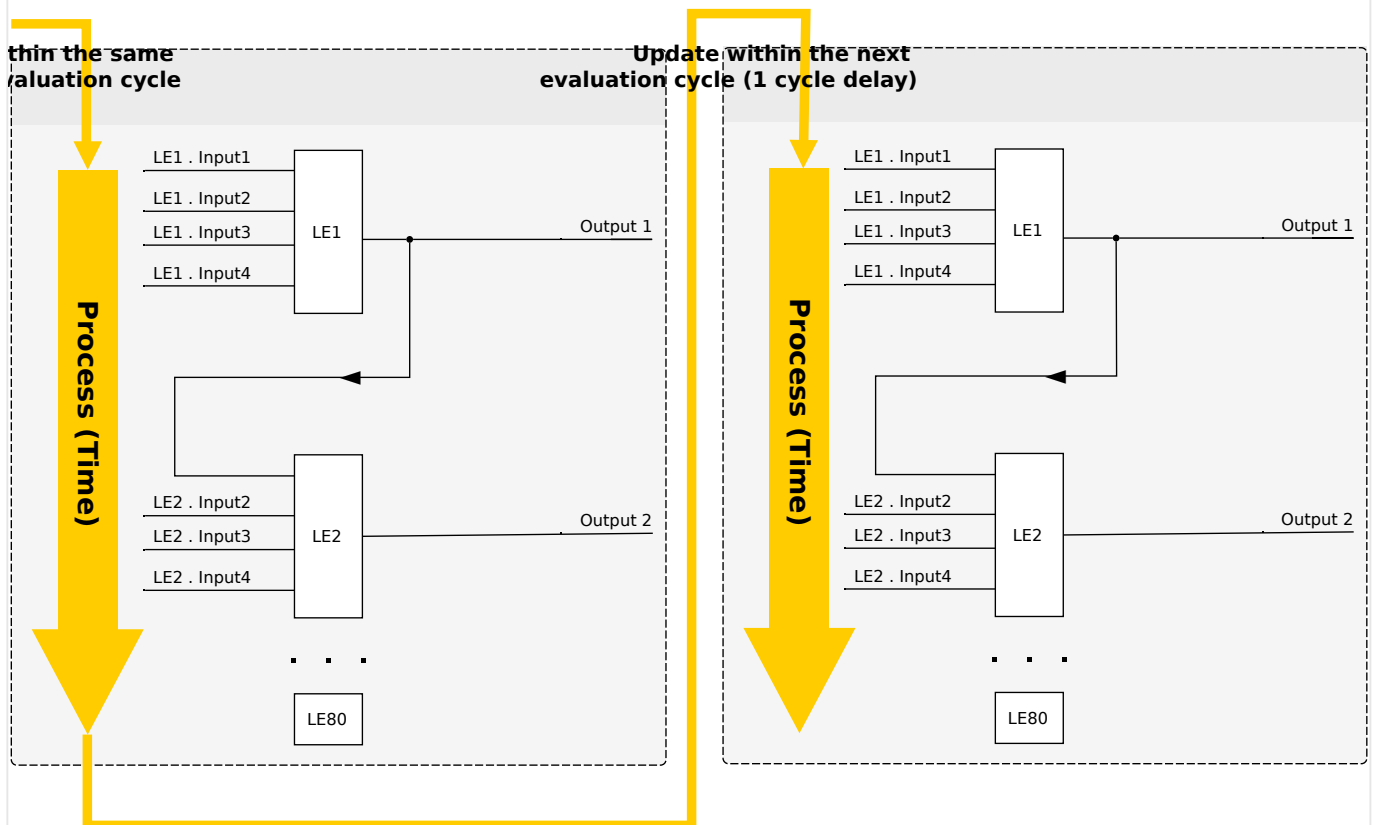
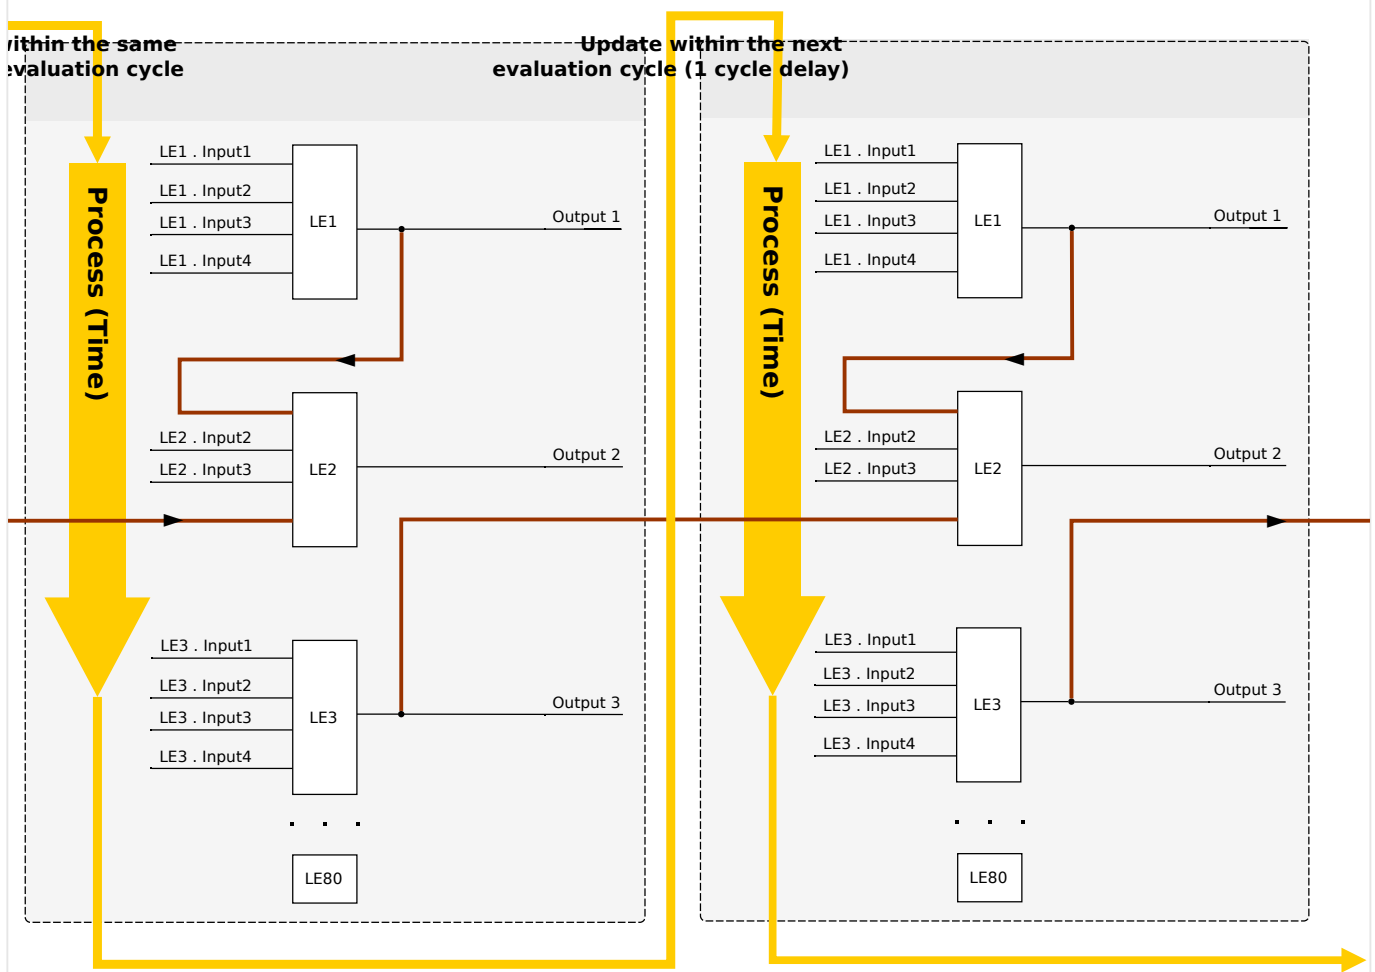

Fig. 205: Cascading in Ascending Order.
Fig. 206: Cascading in Descending Order.
- **Ascending** sequence means that some output is fed into the input of a logic equation with **higher** number. For instance, diagram ↪Fig. 205 below shows an example where the result of Logic Equation LE1 is used as an input of Logic Equation LE2.
- **Descending** sequence means that some output is fed into the input of a logic equation with **lower** number. For instance, diagram ↪Fig. 206 shows an example where the result of Logic Equation LE3 is used as an input of Logic Equation LE2.
Both ascending and descending sequences may be used and combined one with the other, with no immediate difference. However, due to the evaluation of all equations in ascending order the actual run-time values that are fed in at the input of an equation will have a different “age”, as is shown in ↪Fig. 205 and ↪Fig. 206 below.
In the example shown in Fig. 206 above, “Logic Equation 2” uses the output states of two other equations, “Logic Equation 1” and “Logic Equation 3”. The result of “Logic Equation 1” is used in ascending order and has therefore been evaluated within the same process cycle. The result of “Logic Equation 3” is used in descending order and has therefore been evaluated in the previous process cycle.